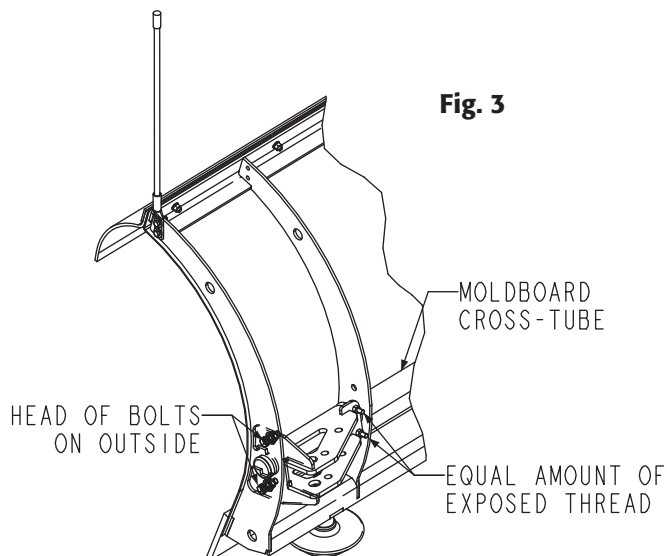

Fig. 3
- 4.** Bolt each mounting bracket to the end ribs using two 1/2-13 x 1.5" bolts, 1/2" flat washers, and lock nuts supplied. The head of the bolts must be on the outside of the plow blade in order for the wing to assemble properly. Tighten the four mounting bolts making sure the front of each bracket is flush with the front of each rib. See figure 3.